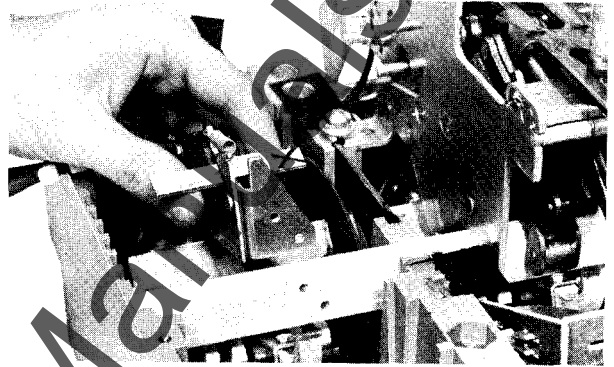

Figure 42.
4. Position the auxiliary switch assembly so that the tapped mounting holes on its bracket line up with the through holes in the arm stop (Fig. 42).